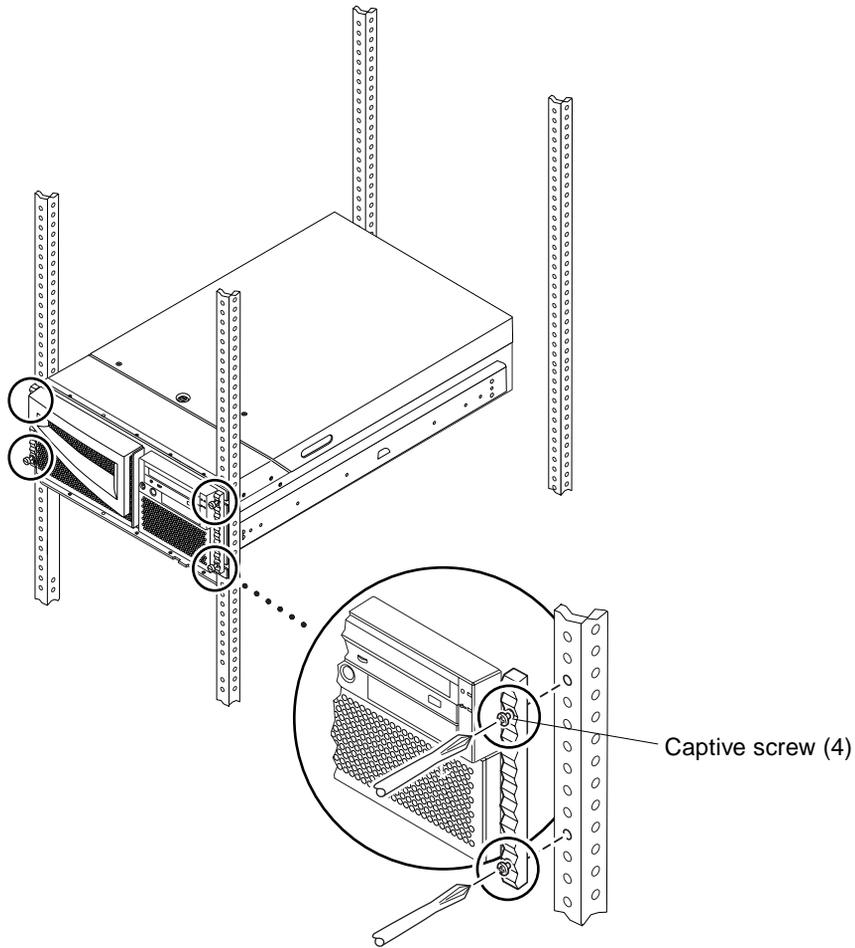

FIGURE 9-10 Loosening the Captive Screws From the Left and Right Vertical Rails
- 6. Using a No. 2 Phillips screwdriver, loosen the four captive screws securing the file server or compute engine to the left and right vertical rails at the front of the rack (FIGURE 9-10).**